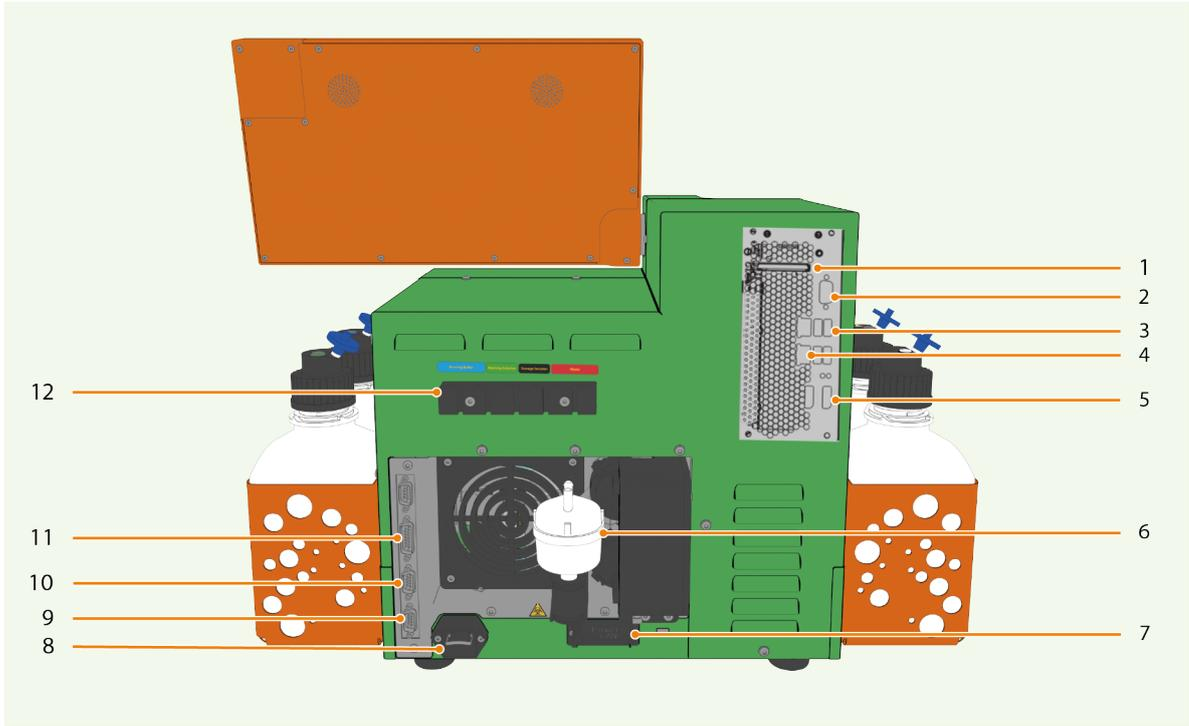

Figure 1.3: Rear view of the MACSQuant Analyzer 10, VYB, and Analyzer 16
- 1 Install only one fluid bottle at a time. Place the new bottle (3) into the orange bottle holder (4). Note the corresponding color coding.
- 3 Remove the caps from the bottle distribution block and connect the tubing to the appropriate color-coded fluid port of the bottle distribution block on the rear side of the instrument. See **Figure 1.3**.
- 4 Note the color coding of the tubes and connect them to the respective bottle closure (2).
- 5 Connect the 4-end fluid sensor cable to the port labeled **Bottle Sensor** at the rear side of the instrument. See **Figure 1.3**. Fasten the screws of the sensor cable plug securely.
- 6 Note the color coding and connect each fluid sensor cable to the respective bottle closure (1).